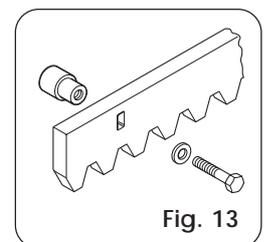

Fig. 13
**4.4.1. STEEL RACK TO BE WELDED (Fig.13)**